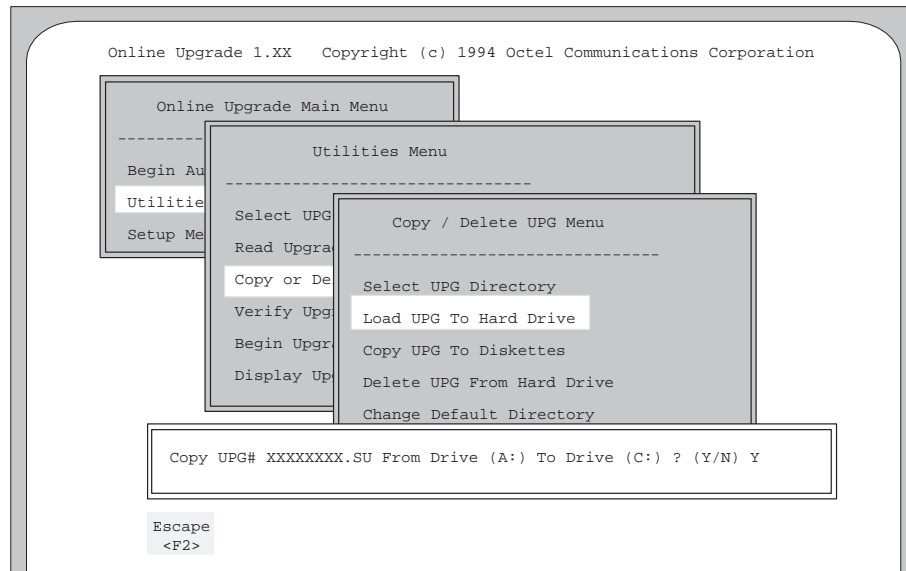

Figure 13-10. Verification Prompt.
4. At the *Insert The Source Disk #1 in Drive (A:)* prompt, insert the first software or phrase diskette into drive A, then press **Enter** to begin copying files. Press **F2** to abort the copying. A verification prompt, similar to the one shown in Figure 13-10, appears in the prompt box.